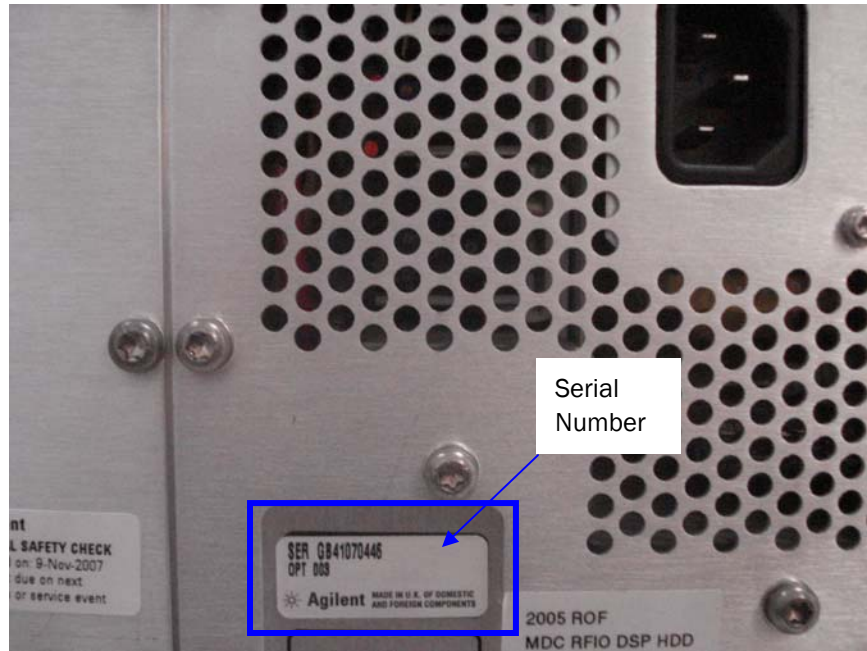

Figure 1: 8960 (E5515C) Serial Number Location
1. Locate the serial number of the 8960 (E5515C) on the back of the unit near the AC power outlet, as shown in Figure 1.